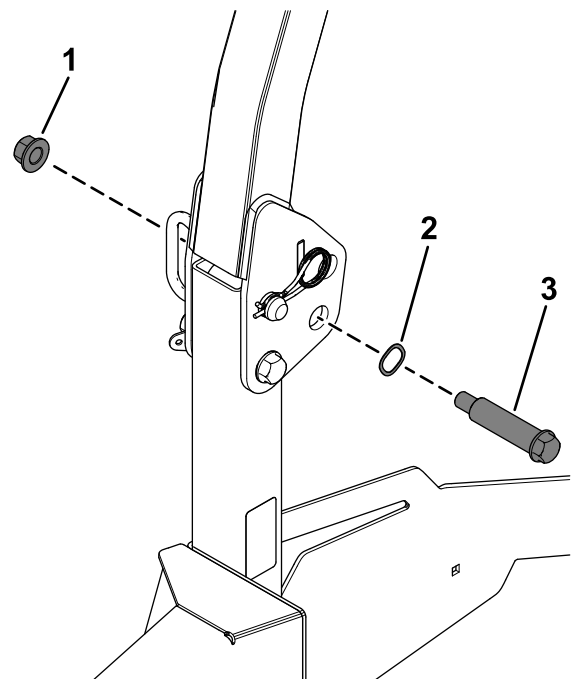

Figure 5
1. Secure the shoulder bolt to the roll bar using a wave washer and locknut (1/2 inch) as shown in Figure 5.